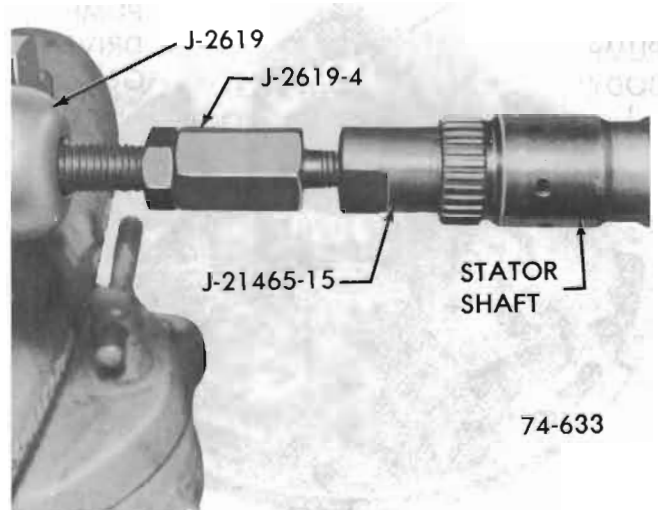

Figure 76-165
a. Thread J-21465-15 into stator shaft bushing. Thread Slide Hammer J-2619 into remover. Clamp slide hammer handle into vise. Grasp stator shaft and remove bushing. See Figure 76-165.